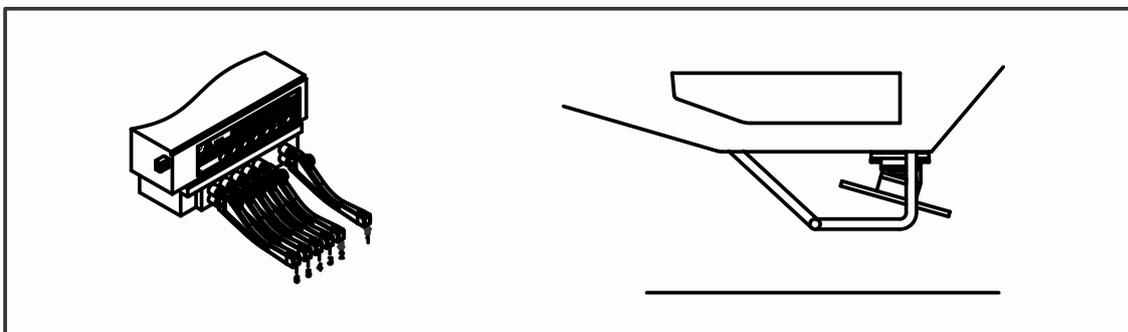

Fig. 04 – 20
- 2) Move lever 1 upwards until the 5th outrigger is fully retracted. See Fig. 04 – 20.